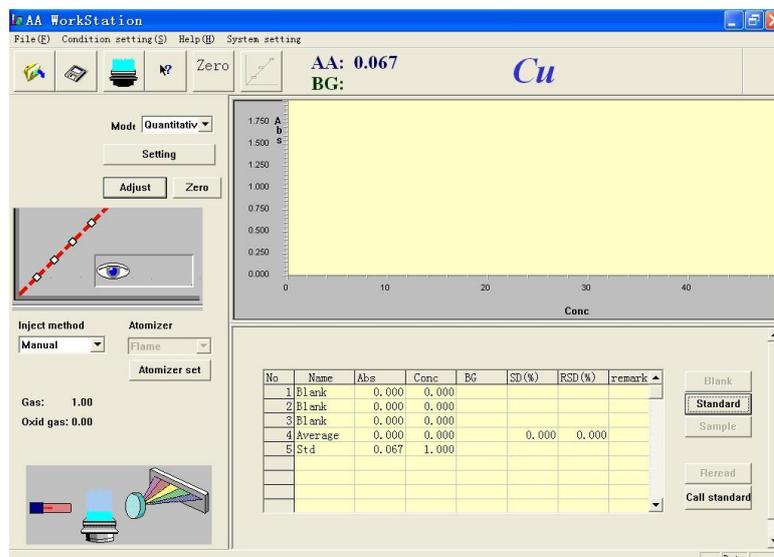

Figure 6-10
- Spray and suck the standard sample 1 again. Press "Standard blank", and the screen will appear as shown in Figure 6-10.